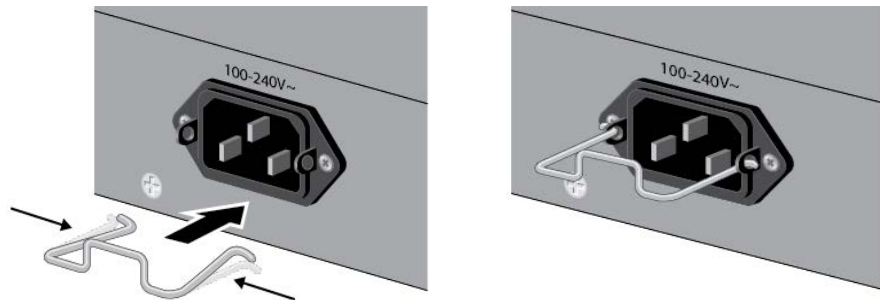

Figure 64. Installing the Power Cord Retaining Clip
1. Install the power cord retaining clip on the AC power connector on the rear panel of the switch, as shown in Figure 64.